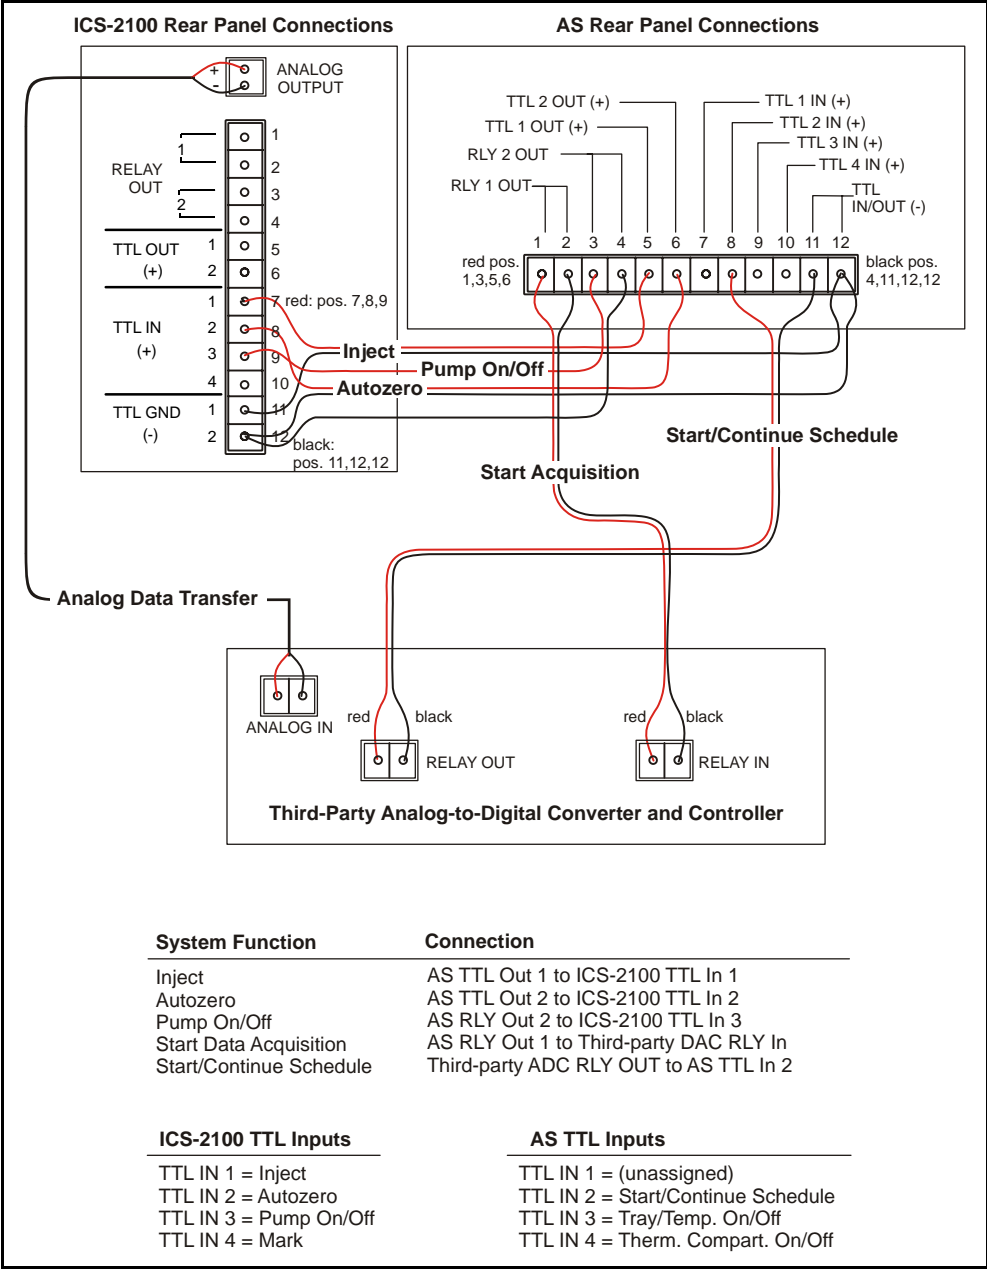

Figure C-6. Example Connections for Stand-Alone Operation
2. Attach the wires to the connector plug positions indicated in Figure C-6.
2. Connect the analog input connector on the third-party controller to the **ANALOG OUTPUT** connector on the ICS-2100 rear panel (see Figure C-6).
Figure C-10 is an example of AS method timed events that can be used with the TTL/Relay connections shown in Figure C-6.